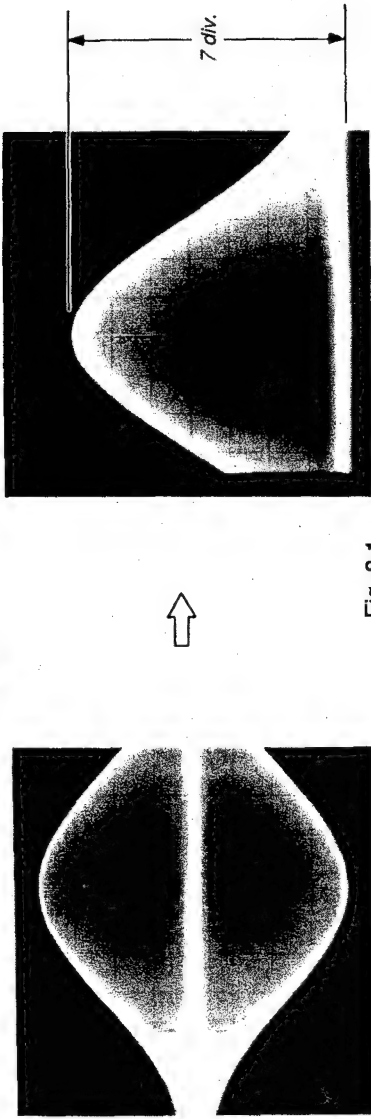

Fig. 8-1.
- 3. Make the V/dw of oscilloscope into VARIABLE, and match the upper section of waveform to 7 div as shown in Fig. 8-1.